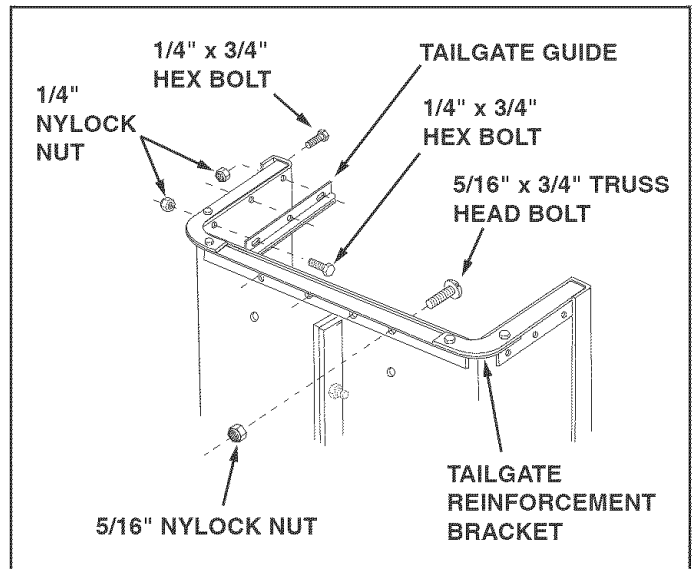

FIGURE 2
- Fit the tailgate reinforcement bracket around the end of the cart body. Fasten it to the top flanges of the cart body using two 1/4" x 3/4" hex bolts and 1/4" nylock nuts. **Do not tighten yet.** See figure 2.
- Fasten the tailgate reinforcement bracket to the bottom of the cart body using four 5/16" x 3/4" truss head bolts and 5/16" nylock nuts as shown in figure 2. **Do not tighten yet.**
- Position the tailgate guides on the inside of the cart bodies with the guide channels to the front as shown in figure 2. Fasten using six 1/4" x 3/4" hex bolts and 1/4" nylock nuts. See figure 2. **Do not tighten yet.**